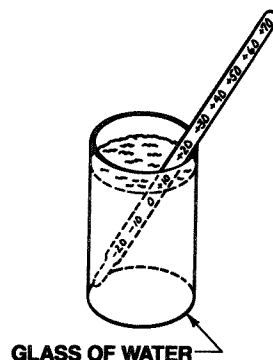

Figure 3
- g. In refrigerator section, place thermometer in a glass of water and place in middle of refrigerator. Wait 5-8 hours. If temperature is not 38° to 40°F ($+3^{\circ}$ to $+4^{\circ}\text{C}$), adjust the control, one number at a time. Check again after 5-8 hours. See Figure 3.